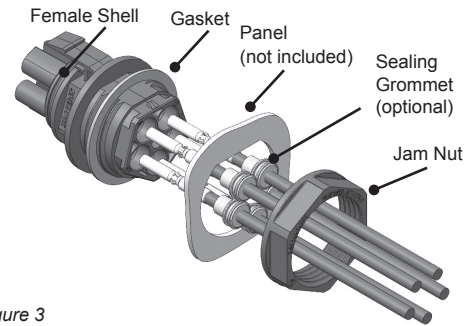

Figure 3
Continue passing the wires through the panel cut-out. (See figure 3)
- b. On the other side of the panel cut out, place the gasket over the threads and on to the connector shell. (See figure 3)